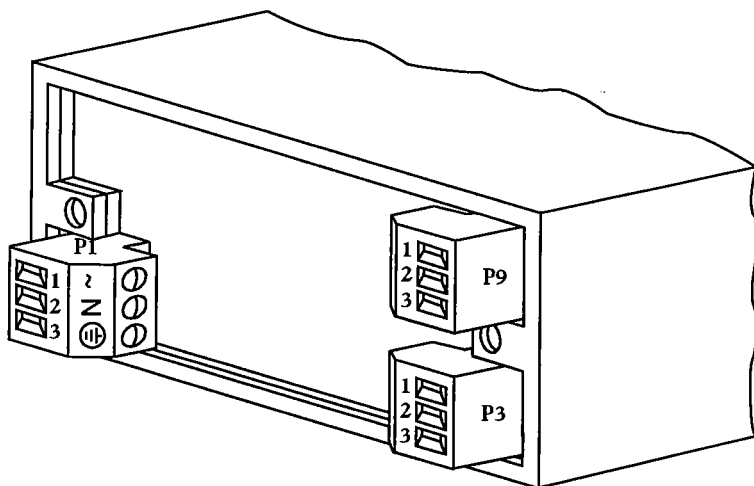

Figure 7-10. Rear View of the Meter
1. Insert the P1 connector at the rear of the meter. Refer to Figure 7-10 for the location of P1.